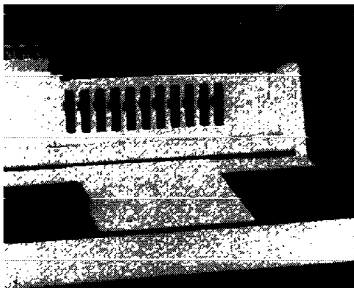

Figure 4.7
1. If the binding edge of your book is less than 6" you should move the Paper Edge Guide to the right until the word "PAPER" is aligned with the first Punch Selector Pin (Figure 4.7).